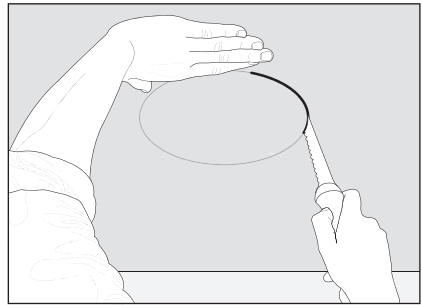

Fig. 5b
4. Remove the template and cut out the opening with a drywall knife (Figs. 5b & 6c).